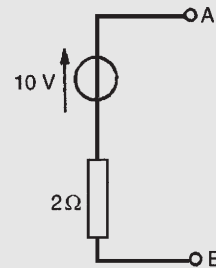
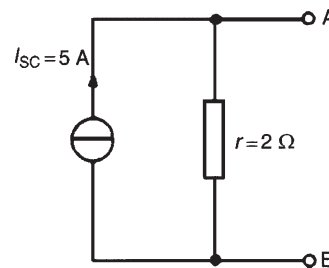

Figure 13.68
Figure 13.69
**Problem 18.** Convert the circuit shown in Fig. 13.68 to an equivalent Norton network.
If terminals *AB* in Fig. 13.68 are short-circuited, the short-circuit current  $I_{SC} = 10/2 = 5 \text{ A}$ . The resistance ‘looking-in’ at terminals *AB* is  $2 \Omega$ . Hence the equivalent Norton network is as shown in Fig. 13.69